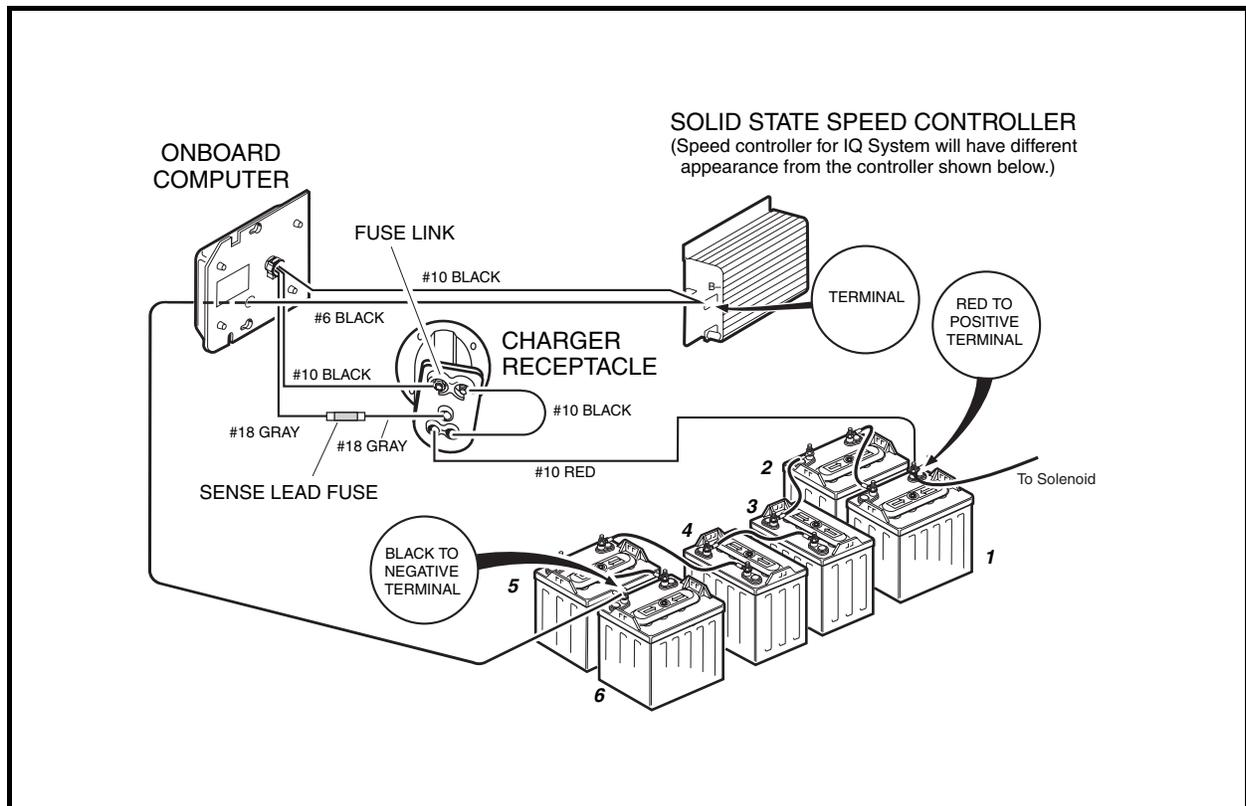
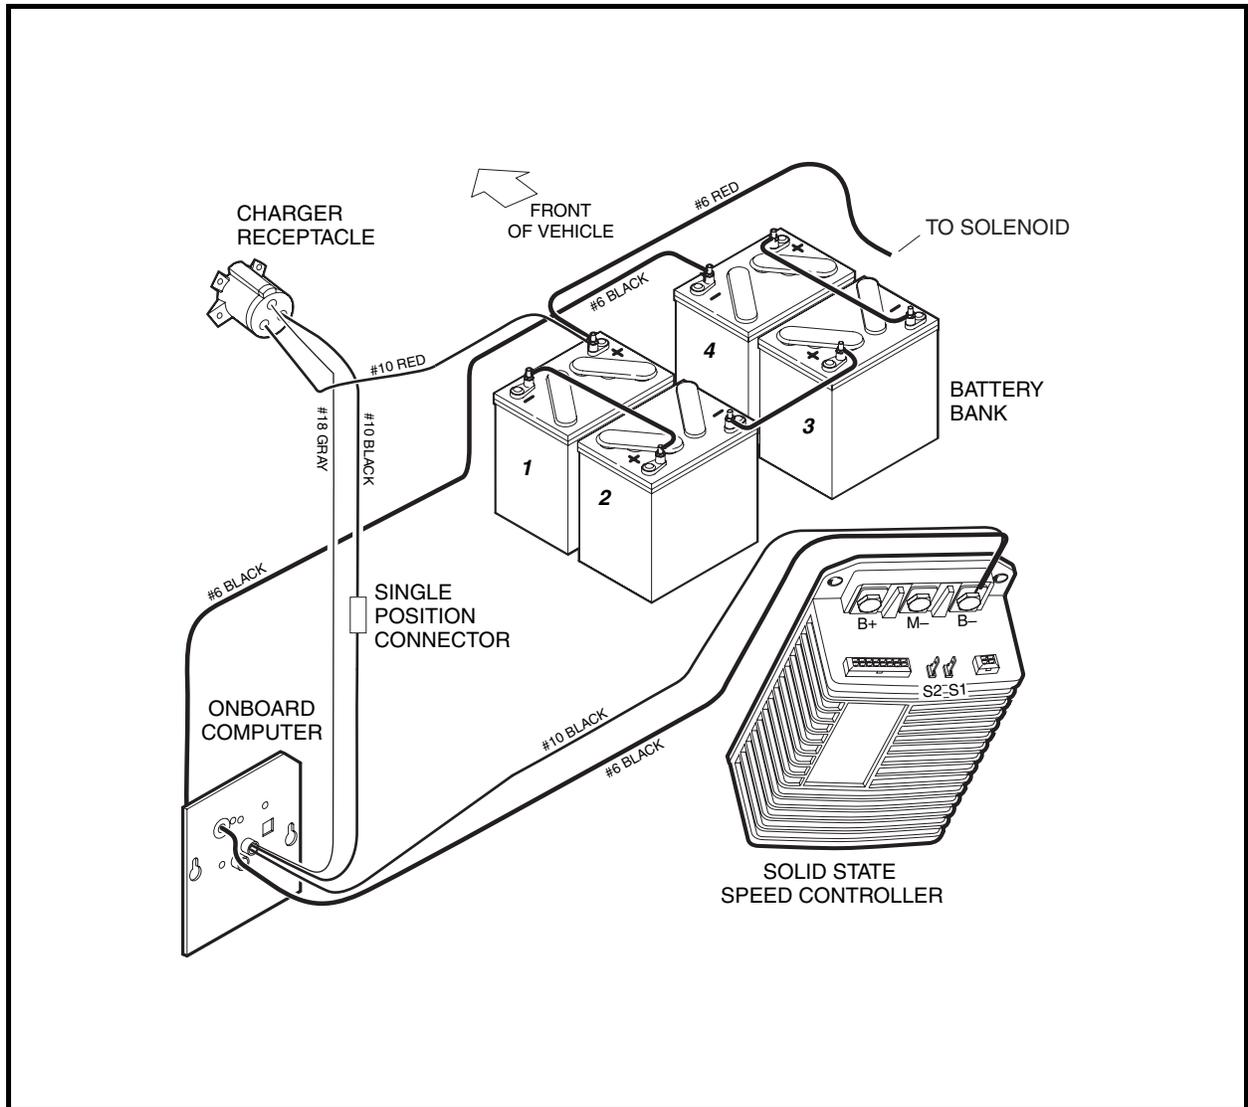
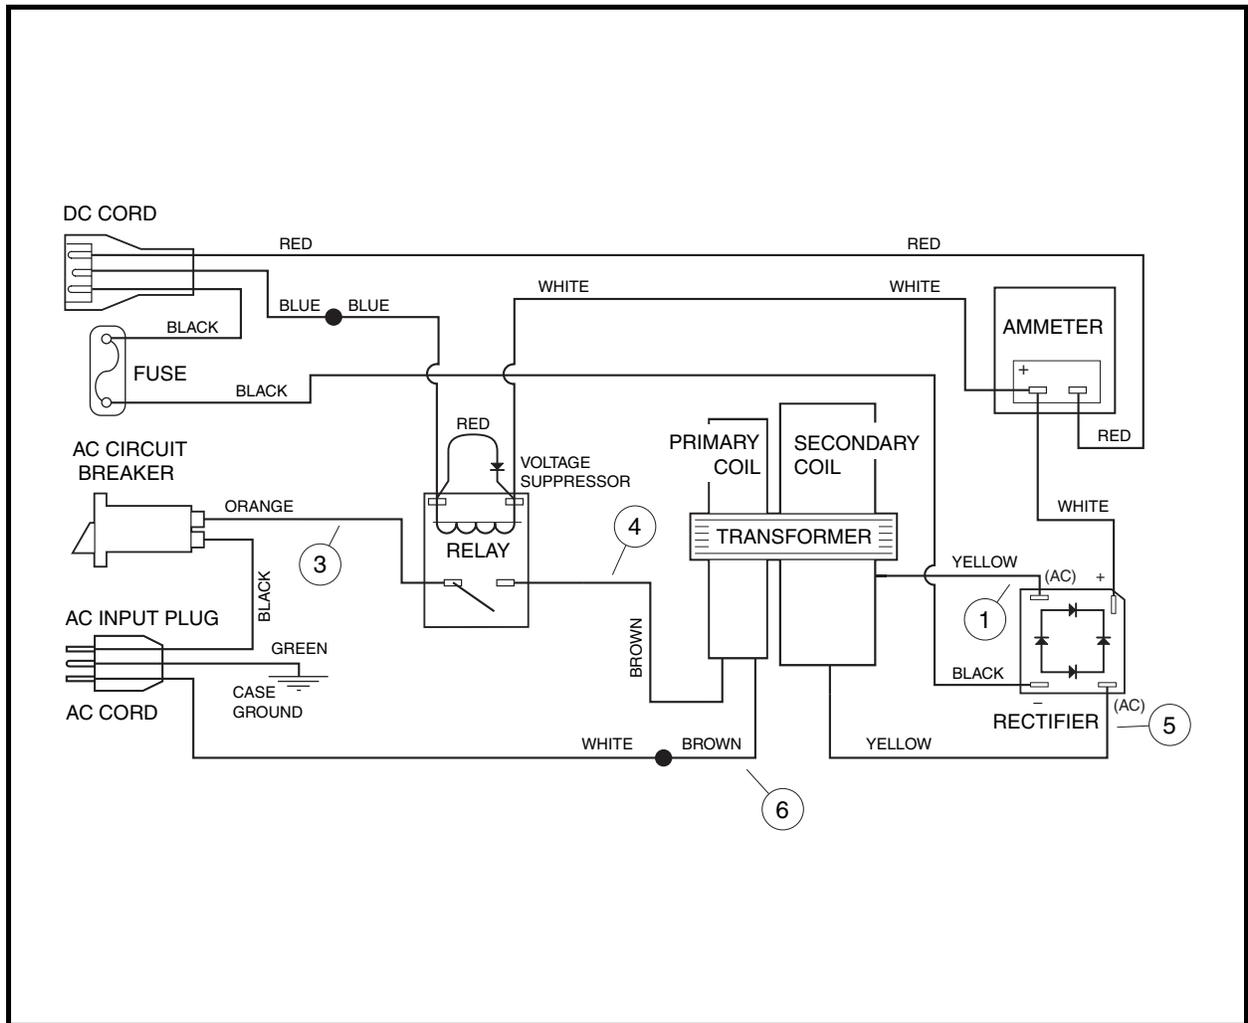

Figure 6-2 Charge Circuit and Battery Configuration – DS Vehicles
Figure 6-3 Charge Circuit and Battery Configuration – Precedent Vehicles
Figure 6-6 GE PowerDrive Battery Charger Wiring Diagram (External Charger)
If the charger works with one vehicle, but does not work with another vehicle, then most likely the problem is in the vehicle charge circuit. Check the connections between the 18-gauge gray wire from the charger receptacle, the sense lead fuse (on all vehicles except Precedent vehicles), and the 18-gauge gray wire from the onboard computer. On all vehicles except Precedent vehicles, also check connections of the fuse link located on the charger receptacle (**Figure 6-2, Page 6-3 or Figure 6-3, Page 6-4**).
3. If the charger does not operate exactly as described above, refer to the wiring diagram and make sure that the vehicle is wired correctly (**Figure 6-2, Page 6-3**) and that the internal charger wiring is correct (**Figure 6-6, Page 6-8**).
- Knowledge of battery charger wiring and component terminology is required before attempting any repair (Figure 6-6, Page 6-8).